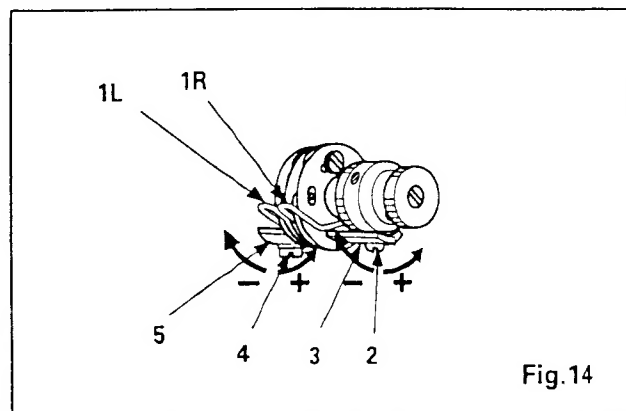

Fig.14
To regulate movement range of thread controller spring (1R) for the right needle thread, loosen screw (2) and adjust stop plate (3), as shown in Fig. 14.